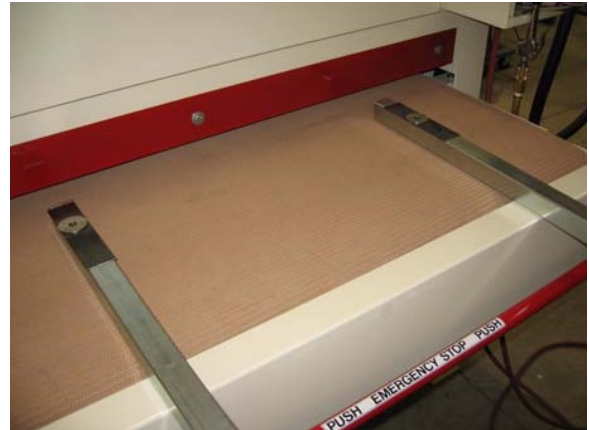

Figure 75: Two Spacers Under Roller
1. Place two metal spacers of equal height on the conveyor table under both rollers. Figure 75.